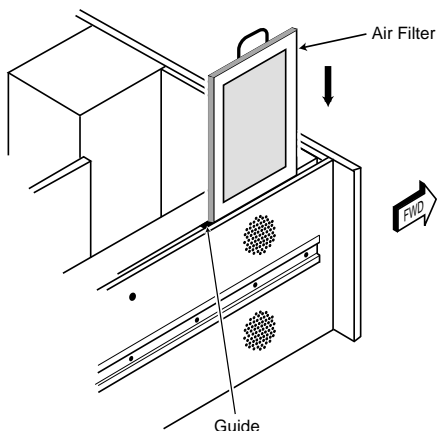

Figure 5-27. Air Filter Installation
1. Refer to **Figure 5-27**. Place the lower left edge of the Air Filter against the guide.
- [] 2. Using firm pressure along the top edge of the Air Filter frame, push the Air Filter down into the unit until contact is made with the lower guide. Refer to **Figure 5-27**.